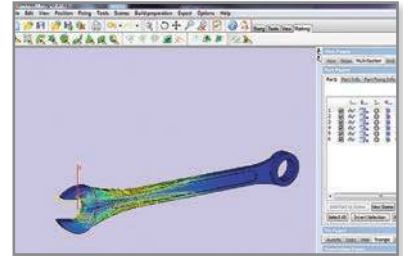

Figure 7: Display combines six VRML files that will be used to create STLs.
- STEP 2:** Import all Iso clipping files (VRMLs) created in section 1.2. **Select File > Import Part**, select all files and then click **Open**. When prompted, select **OK** (Figure 7).